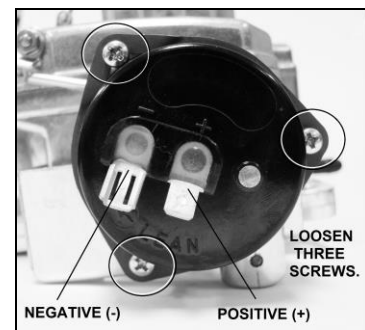

Figure 13
2. Rotating the black choke cap controls the choke timing. To rotate the choke cap, loosen the three screws that secure the choke cap to the choke housing (Fig. 13). Rotating the choke cap clockwise will decrease the amount of time it takes the choke to open, while counter-clockwise will increase the time it takes. This adjustment will depend on your climate and the vehicle it is installed on. The factory setting can be referenced by making note of where the index mark is positioned in the cap in reference to the marks on the casting.